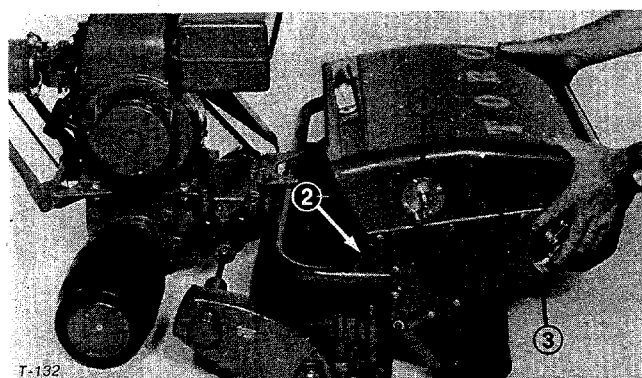

Figure 7
1. Set pins on basket pivots into brackets on yoke and allow basket adjusting brackets to rest onto yoke (Fig. 7).
Note: Basket should be lower in front to assist clipping throw into basket. Adjust brackets to lower basket (Fig. 7). Make sure basket clears roller by at least 1/16 in. (1.6 mm).
3. Loosen jam nuts on each side of basket and rotate adjusting brackets (Fig. 7). Be sure dimension is equal on both ends of unit and tighten jam nuts.
1. Remove the basket pivots from each side of the basket (Fig. 7).